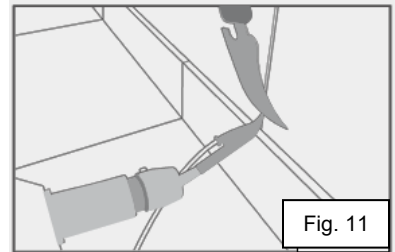

Fig. 11
- 8.11. At the end of the seam, use a knife to cut off any excess rod but keep pressure on the end of the seam for about 5 seconds (fig.11).